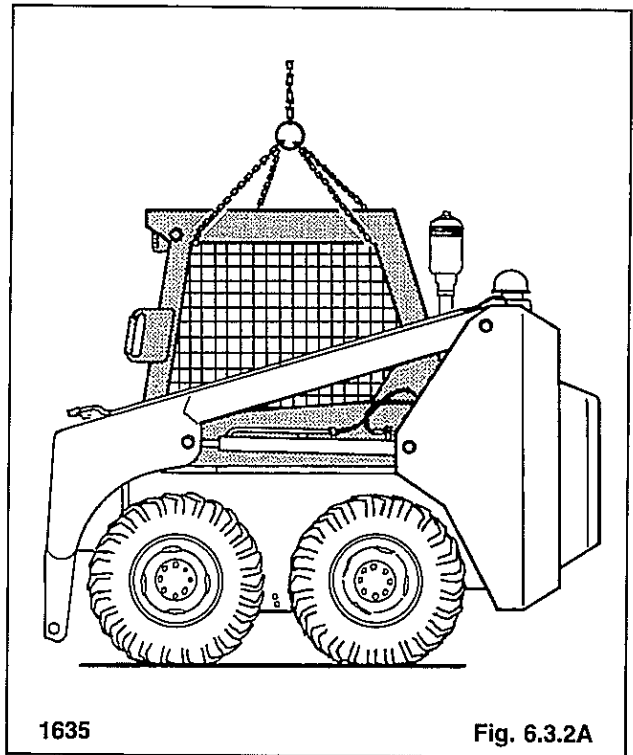

Fig. 6.3.2A
rear isolator holes in the ROPS with the mounting holes in the main frame (Fig. 6.3.2A).
1. Using a chain hoist raise the operators guard (ROPS) and install it on the main frame. Line up the front and rear isolator holes in the ROPS with the mounting holes in the main frame (Fig. 6.3.2A).